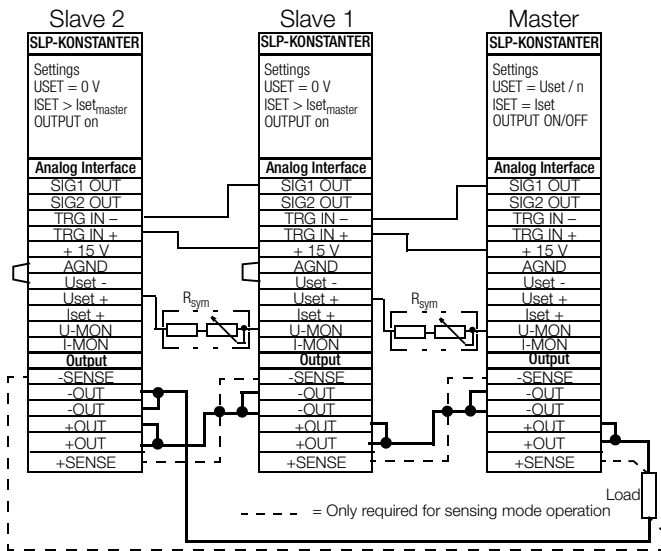

Figure 5.9.2 Wiring for Series Master-Slave Operation
- Connect master and slave devices as shown in **figure 5.9.2**.